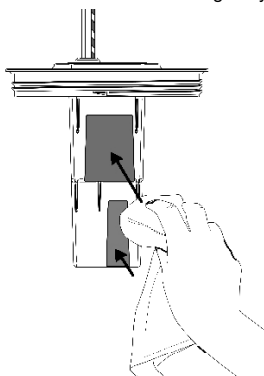

Figure 11 Cleaning of sensor faces
- Fig. 11 Cleaning/Maintenance
For best performance, the sensor faces on the lid **must be** cleaned from debris/residue regularly, at least every 3 months. See Figure 11. Do not use an abrasive cleaner.
Dirt/debris has covered sensor	Carefully remove the lid from the tank, and clean debris from the sensor faces - Figure 11